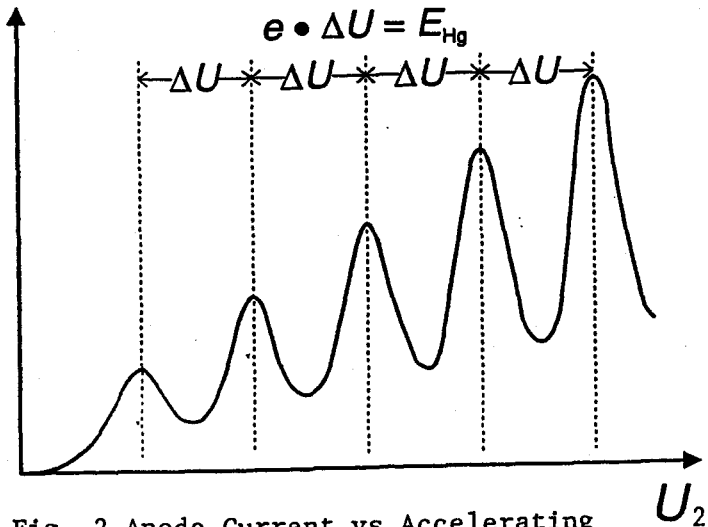

Fig. 2 Anode Current vs Accelerating Voltage
process can be repeated a number of times, resulting in a curve of I vs U_2 shown in Fig 2. The difference in voltage between the peaks is the excitation voltage 4.9 eV.
2. Using switch (6), turn on the Franck-Hertz power supply unit. LED (3.4) for Hg should be briefly green and then turn to yellow. Set U_3 at 1.5 V.
5. Turn the mode switch (3.1) to the fast saw-tooth position and adjust the scope and the potentials U_1 and U_3 for a reasonable scope trace. You might try values for U_1 and U_3 between 1 and 2 volts. You want a trace that looks somewhat like Fig. 2, although on the scope you will not see such pronounced dips. If you make I too large by making U_1 too large or U_3 too small, you will saturate the amplifier. The peaks on the right will have flat tops. You can make I too small by making U_1 too small or U_3 too large. If U_3 is made too large, the dips in the curve will "bottom out." As a general procedure, set U_1 and vary U_3 for the best curve. Then try another value of U_1 , vary U_3 , and see if the results improve.